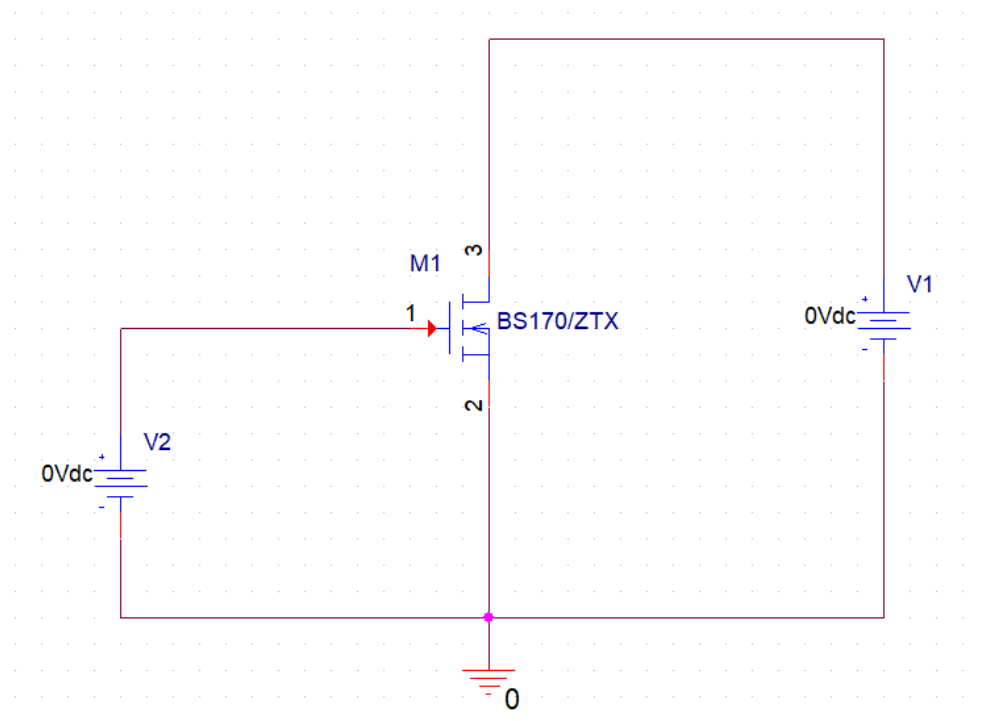

Figure 1: Circuit used to characterize an NMOSFET
The circuit used in the electrical characterization of the MOSFET is shown in Figure 1. Using PSpice, simulate the drain current-voltage characteristics of the BS170 Metal-Oxide Semiconductor Field-Effect Transistor (MOSFET). The PSpice code to simulate and plot the $I_D(V_{GS}, V_{DS})$ drain-current characteristics of this N-channel MOSFET is given below. Use this model to create a PSpice input file for simulating the MOSFET characteristics. Note in particular the model parameters used for the threshold voltage (VT0), the transconductance (KP), and the channel-length modulation parameter (λ).
Once you add the 'ZETEX' library, search for BS170/ZTX. Add this part to your schematic. You will need to add voltage sources to your schematic to represent V_{GS} and V_{DS} and wire them to match the circuit in Figure 1.
- Voltage Source: V_{DS} (V_1 in Figure 1)
- Voltage Source: V_{GS} (V_2 in Figure 1)